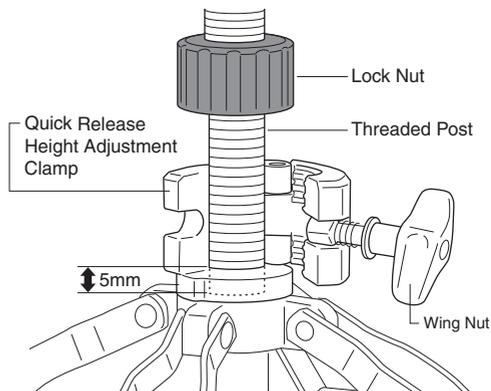

Fig. 2
4. Tighten the Wing Nut securely then securely tighten the Lock Nut against the Clamp. (Fig. 2)